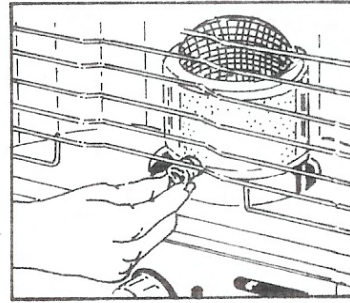

Fig. 8
- (4) Use chimney handle to swing the chimney for 2-3 times, to make sure that chimney is properly seated after lighting (Fig. 8)
- (5) When re-ignition is performed immediately after extinguishing, crude fuel can cause an intense smell. Wait 5 minutes for cooling the chimney before re-ignition.